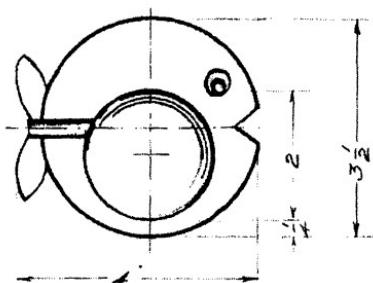

FIG. 5
10. Bend and fit the square wire for reinforcement below the handle (Fig. 5).